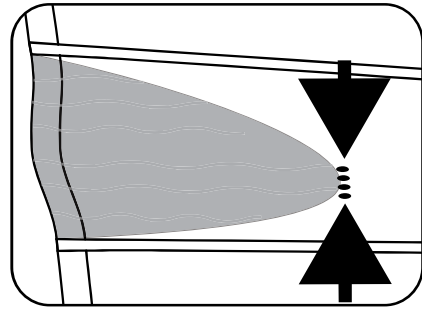

Figure 2: With no outhaul and the leech lying on the ground, downhaul until the looseness extends to the four black dots.
- b) Then, downhaul until the looseness on the leech extends to the four dots printed on the upper leech of the sail (figure 2).